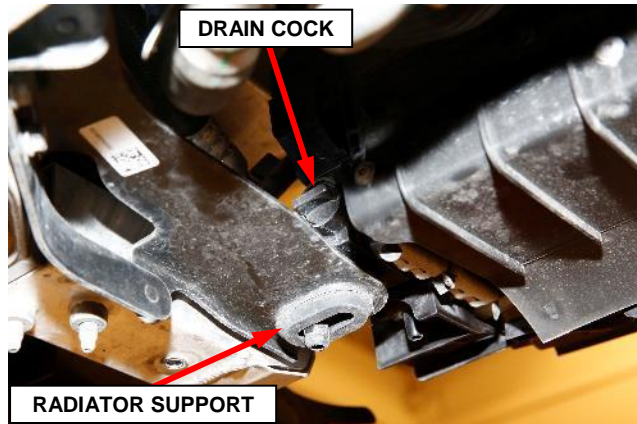

Figure 8 – High Temperature Primary Radiator Drain Cock
26. Open the drain cock located on the left side tank of the high temperature primary radiator (Figure 8). Allow the coolant to drain into a suitable clean container for reuse.
17. Close the drain cock located on the left side tank of the high temperature primary radiator (Figure 8).